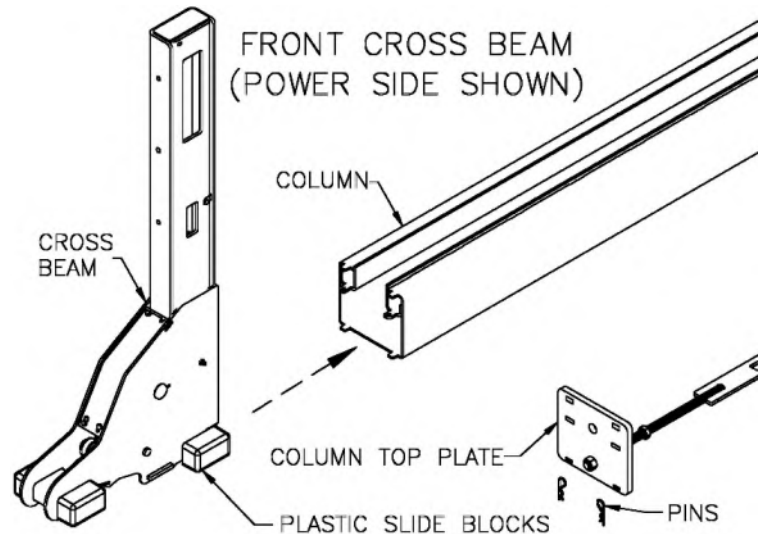

Fig 19 – Front Crossbeam Installation
- 30) Position the two front columns near the front corners of the lift on their sides; remove the pins from the top of the column and slide the top plate/ladder assembly out. Reach inside and pull out the Slide Blocks out of each crossbeam and place on 2"x4" ends. Insert the front crossbeams as shown in **Fig 19**. Notice that the front columns are identical, but the crossbeams are not. Make sure the slide block contact areas are greased with heavy viscous grease.